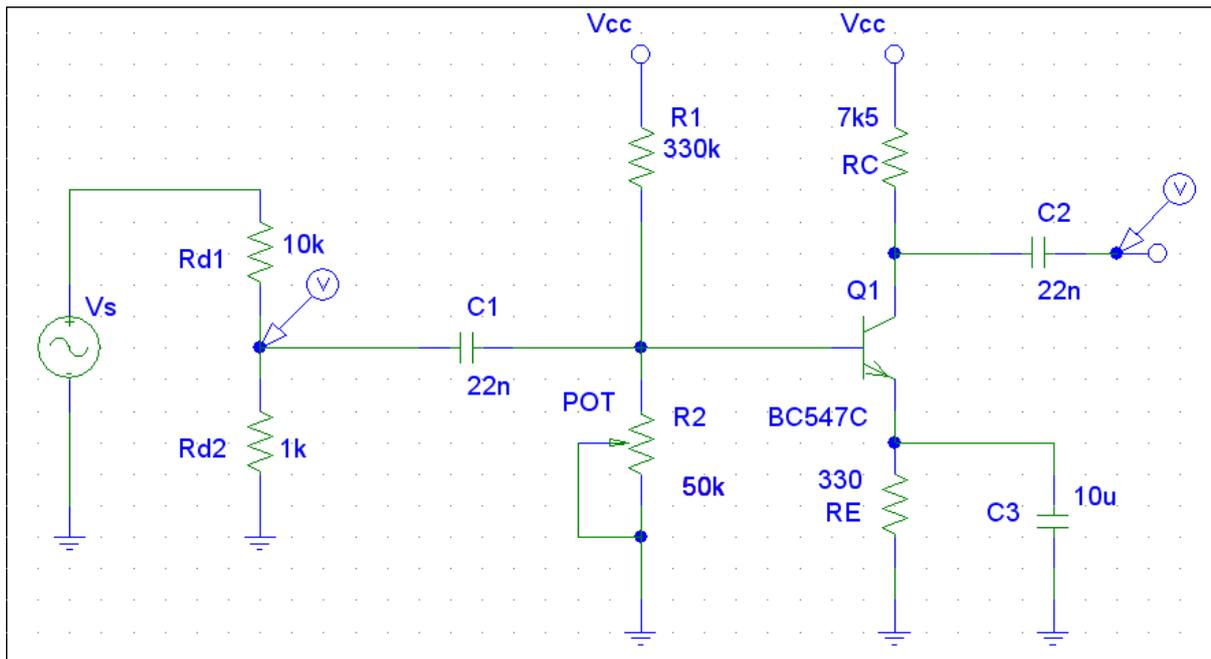

Fig. 4 BJT common-emitter amplifier with positive feedback for DC.
1. Solder circuit illustrated in fig. 4.
6. Set the oscilloscope window to observe the input and output voltage V_{IN} and V_{OUT} . Set the cursors to calculate the amplification A_v of the circuit from fig. 4.